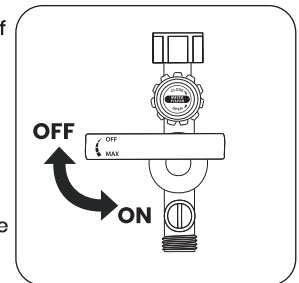

Fig. 13
- Turn off the 3-in-1 stop valve to temporarily turn off water supply (Fig. 13) :**